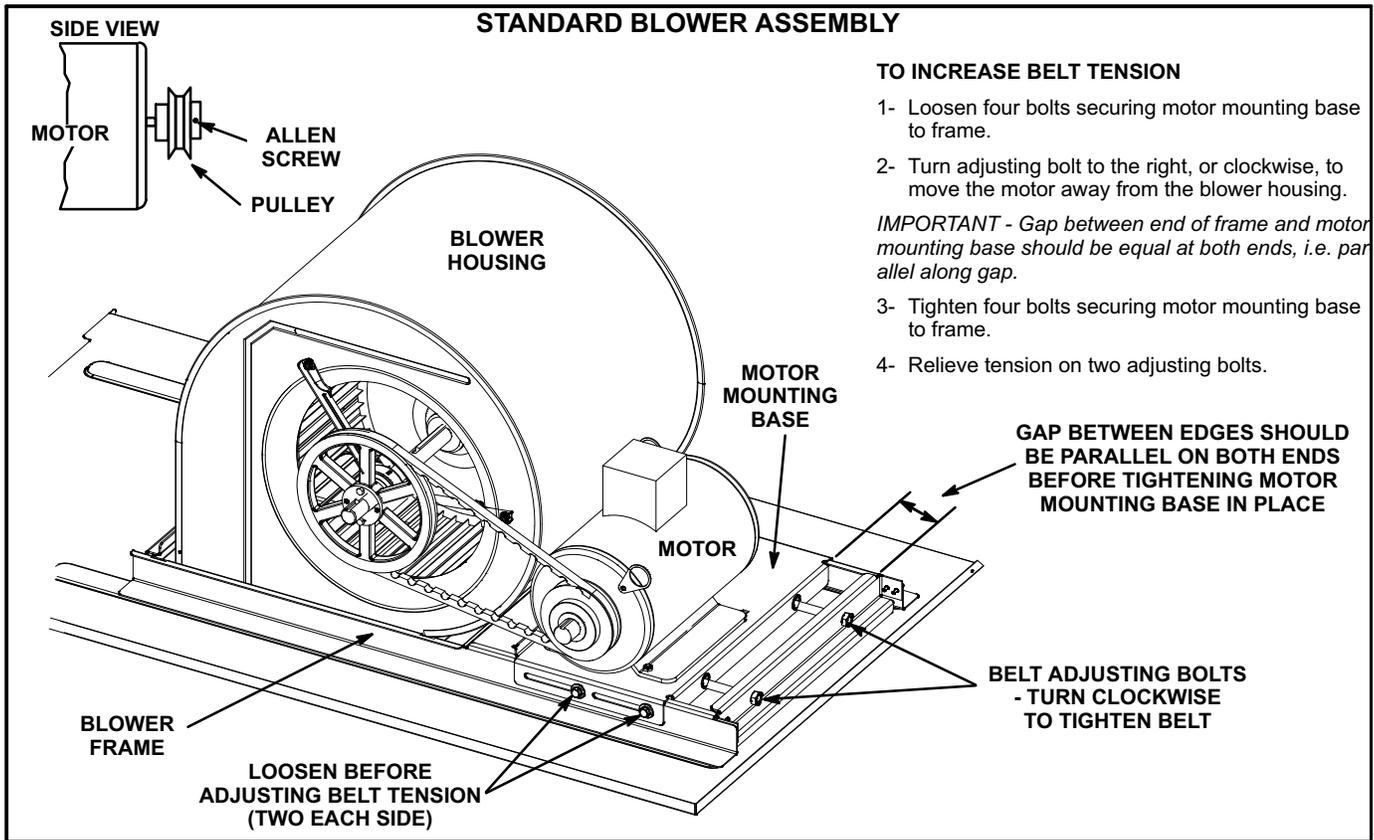

FIGURE 7
- 5- The blower RPM can be adjusted at the motor pulley. Loosen Allen screw and turn adjustable pulley clockwise to increase CFM. Turn counterclockwise to decrease CFM. See figure 7. Do not exceed minimum and maximum number of pulley turns as shown in table 2.
- 1- Loosen four bolts securing motor base to mounting frame. See figure 7.